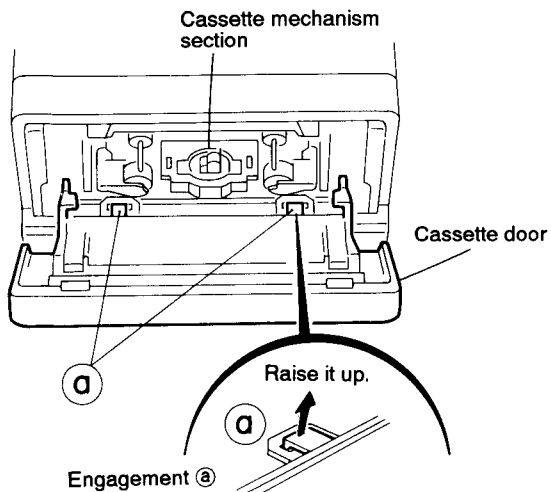

Fig. 5-4
2. Open the cassette door, and while disengaging the two engagements ② retaining the front plate in the inner part of the cassette holder, remove the front plate by pulling it toward the front side (See Fig. 5-4).